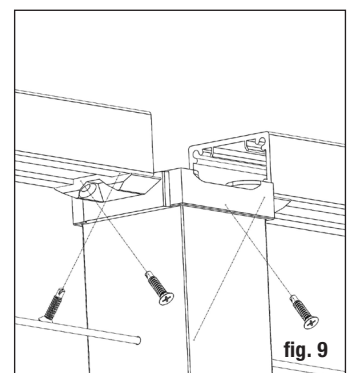

fig. 9
**Step 10** Position the rail between the posts. Check for level end-to-end and vertically. Attach brackets to the post at one end. Repeat for the other end. *Tip: Use a driver extension bit to avoid marring the rail with the drill chuck. Install all rails prior to installing cable.* (fig. 9)